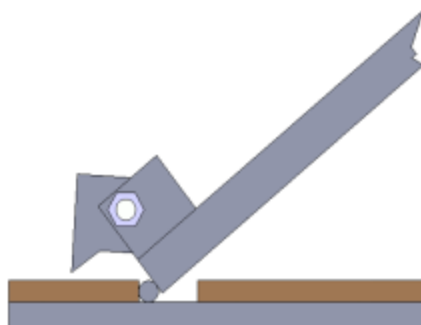
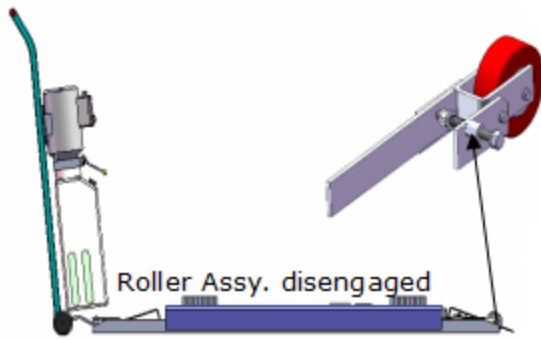

Fig.13
Fig. 15
2. The roller must be disengage when lifting vehicle (**See Fig.15**). To raise and lock the lift: Press the button up till the lift is raised to the required height and the locks are in engaged (**See Fig.13**), then push release handle of the power unit, the lift would be locked.
5. Move lift: Pull up roller bracket, lock two roller to the lift with roller shaft. (See Fig. 15& 16 ). Moving the lift by the power unit stand.